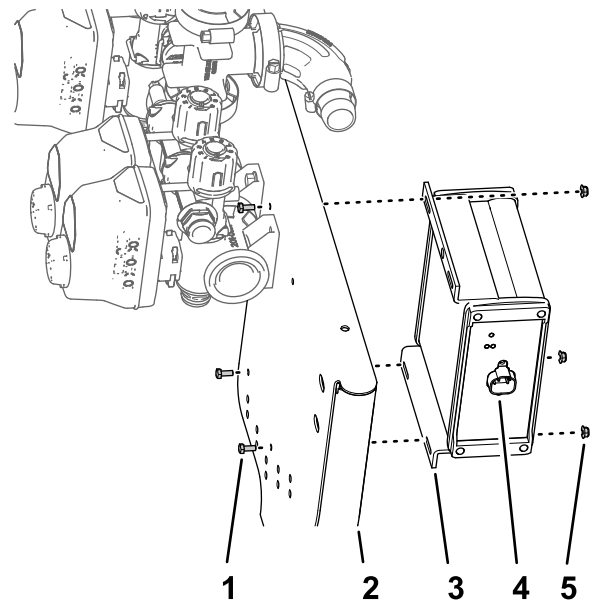

Figure 98
1. Align the ASC 10 sprayer controller to the forward side of the valve mount with the 4-pin connector outward (Figure 98).
- Assemble the sprayer controller to the valve mount (Figure 98) with the 3 bolts (4 x 10 mm) and 3 flange locknuts (4 mm).